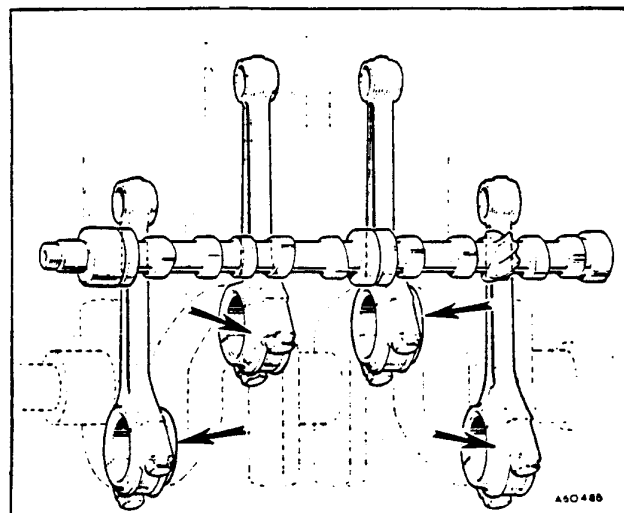

Fig. 1
- b. Fit the connecting rods with their offsets as shown in Fig. 1, using tool 18G 55 A to compress the piston rings.